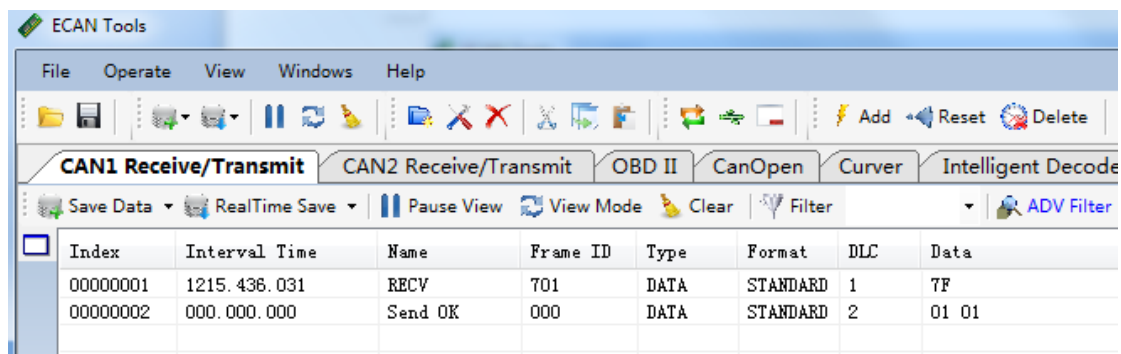

Figure 4.3 NMT command monitoring interface
Use the ECANTools software to command GCAN-IO-8000 to enter the operation state: ① fill the slave node number into the text box behind the ID, ② click the add slave button, ③ open the + sign on the left of the node, and click " NMT", ④ Select "Start Remote Node" (default) and click the "NMT" button below. As shown in Figure 4.3, the NMT command can be viewed in the ECANTools monitoring interface after sending.